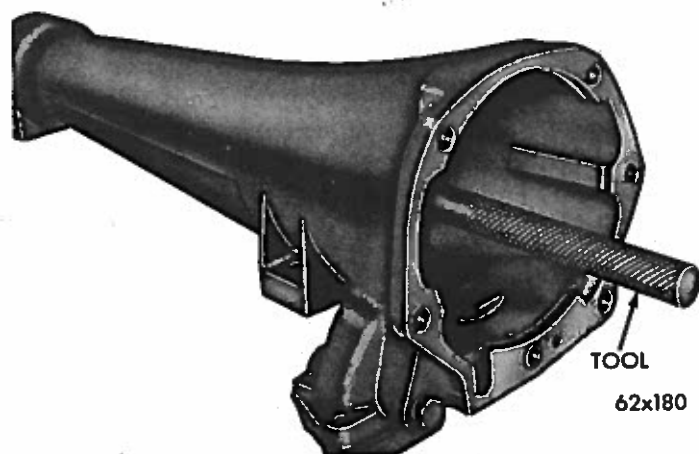

Fig. 30—Removing Output Shaft Bearing (Tool C-3275)
(1) Pry or drive oil seal out of extension housing with a long blunt drift. Be sure not to mar oil seal surface in the housing.
(2) Remove bearing snap ring from the extension housing. Drive the bearing rearward out of housing with Tool C-3275 (Fig. 30).
(3) Place new bearing in opening of extension housing. Using Tool C-3204, drive bearing into hous-